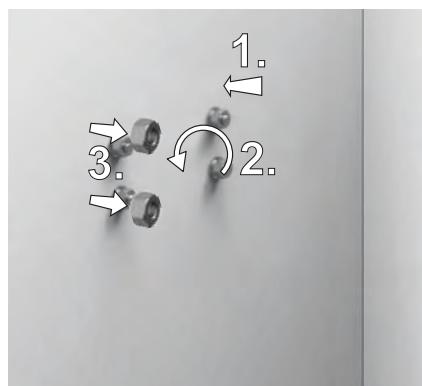

Fig. 22: Prepare expansion bolts for bracket ⑧
3. Plug the expansion bolts into the mounting holes and then remove the nuts and washers (Fig. 22).